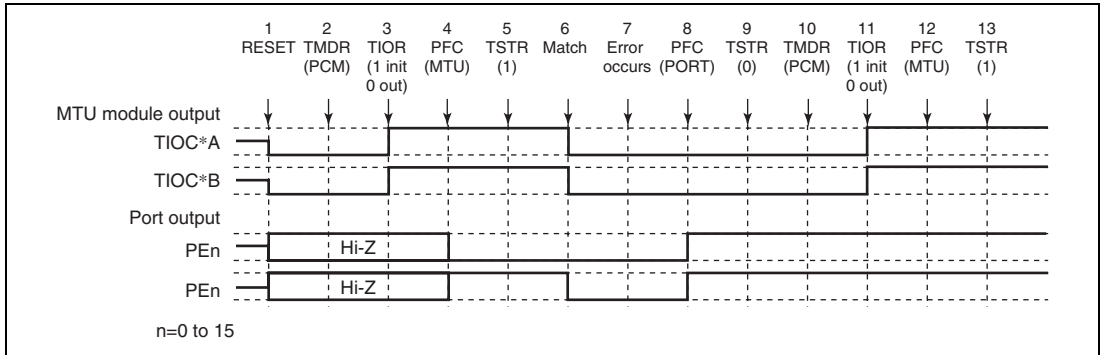

**Figure 11.104 Error Occurrence in Phase Counting Mode,
**Operation when Error Occurs during Phase Counting Mode Operation, and Operation is Restarted in Phase Counting Mode:** Figure 11.104 shows an explanatory diagram of the case where an error occurs in phase counting mode and operation is restarted in phase counting mode after re-setting.